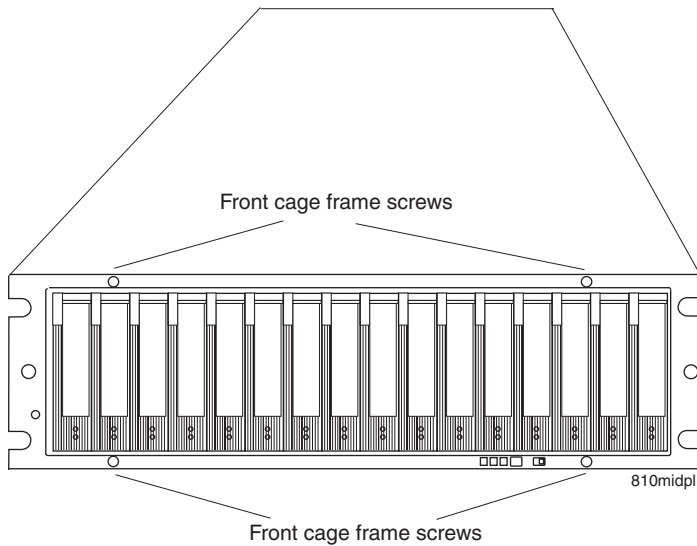

Figure 117. Front cage frame screw locations
10. Use a #1 Phillips screwdriver to loosen the four front cage frame screws on the midplane, as shown in Figure 117.
17. Tighten the four front cage frame screws. See Figure 117 on page 178.